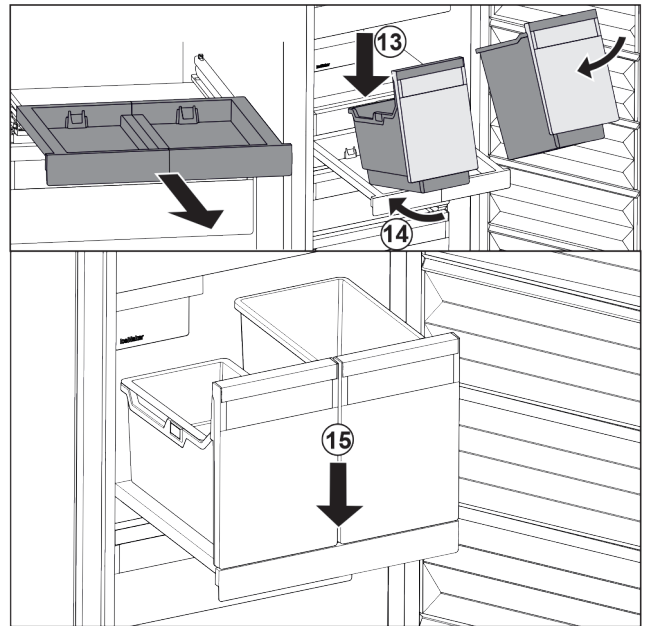

Fig. 86
- Place the container at an angle on the pull-out board. Fig. 86 (13)
- Slide the container to the back at an angle. Fig. 86 (14)
- Place container in the front. Fig. 86 (15)